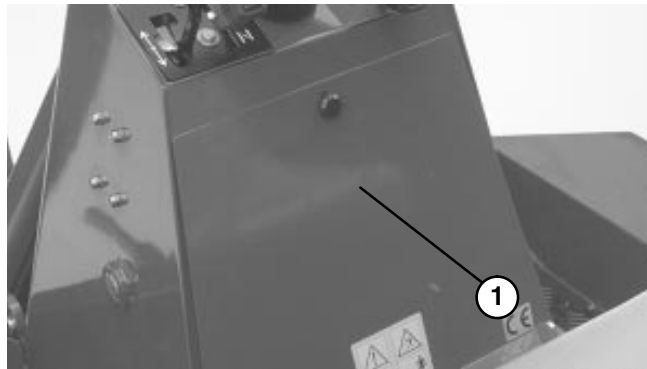

Figure 36
(Fig. 36–37)
2. Remove access panel from rear of tower (Fig. 36).